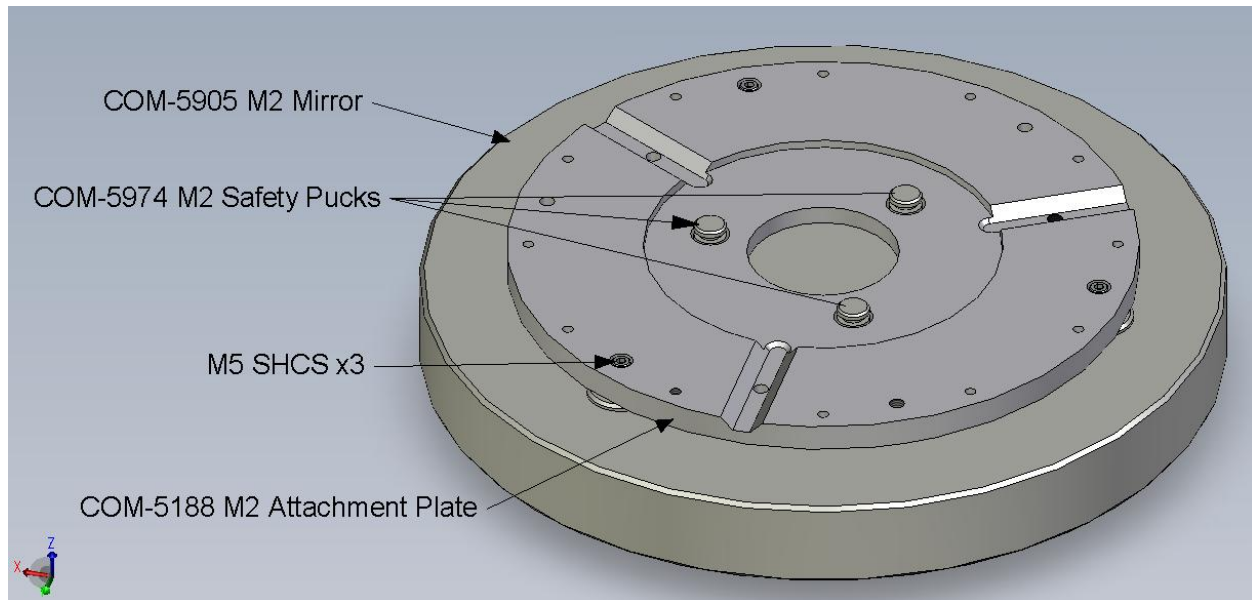

Figure 4 M2 Assembly with Baffle Holder Removed
8. Remove the three M5 SHCS securing the M2 Attachment Plate to the M2 Mirror (COM-5905), see Figure 4.
3. Identify any orientation marks and carefully place the M2 Mirror (COM-5905) on the M2 Attachment Plate, see Figure 4.